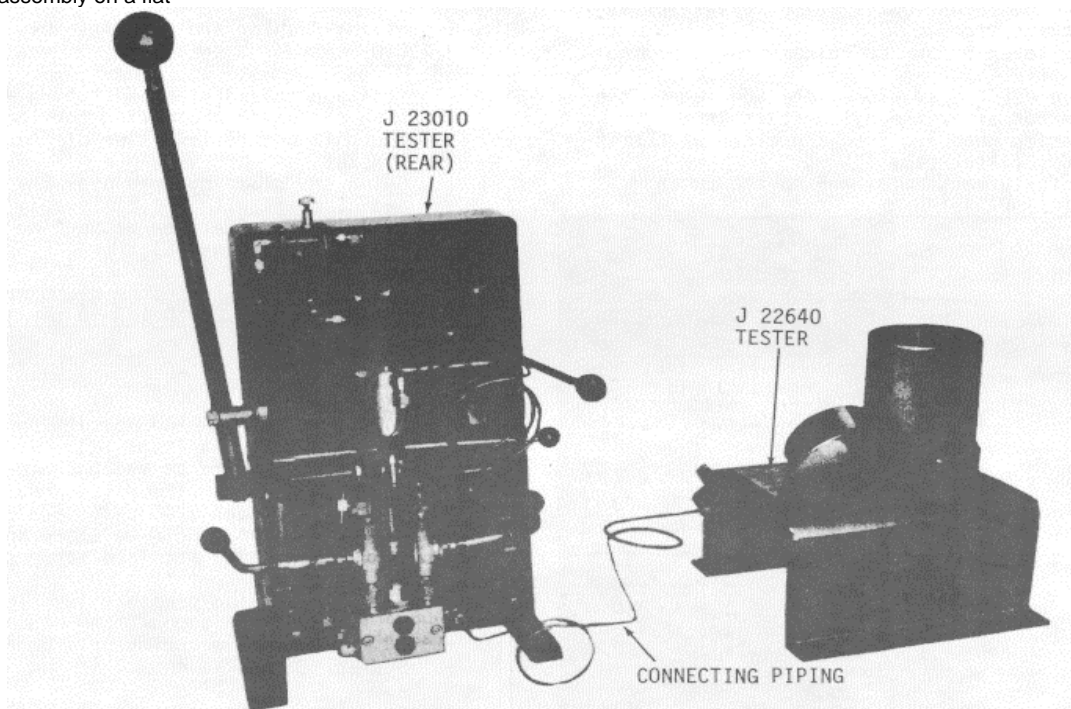

Fig. 17
- (1) Connect the pipe from the auxiliary tester J 22640 to the rear of the J 23010 tester at the connection located near the bottom of the tester (Fig. 17).